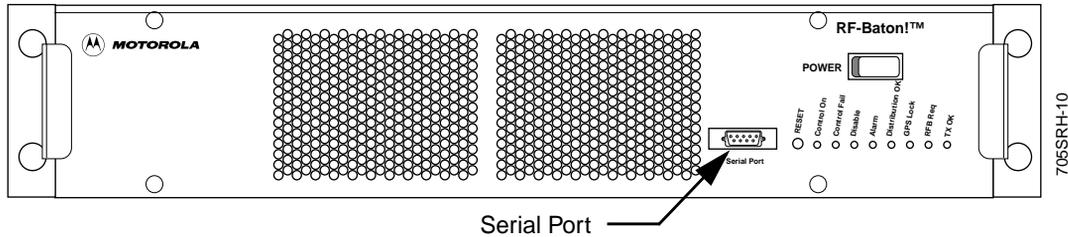

Figure 5-1: RF-B! Transmitter Controller (Front View)
The service terminal is usually an IBM®-compatible personal computer (PC) running a compatible communications software program. Procomm Plus® is the recommended communications software program; however, an equivalent program may be used. The service terminal connects to the serial port on the RF-B! transmitter controller front panel (see Figure 5-1). For convenience, use an RS-232 cable at least 10-ft (3.05 m) long with a DB9 connector.
1. Connect the service terminal to the RF-B! transmitter controller serial port connector using an RS-232 cable with a DB-9 connector and a null modem adapter. (See Figure 5-1).